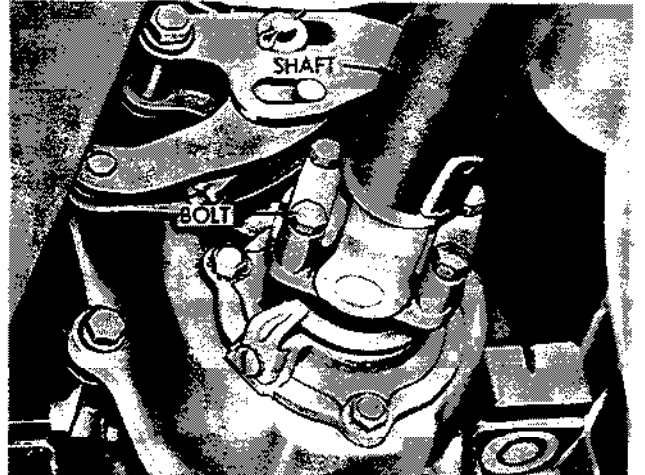

Figure 2-292. Remove universal joints bolts from transmission end of propeller shaft.
(2) Remove four universal joint bolts from the transmission end of the propeller shaft and remove shaft (fig. 2-292).